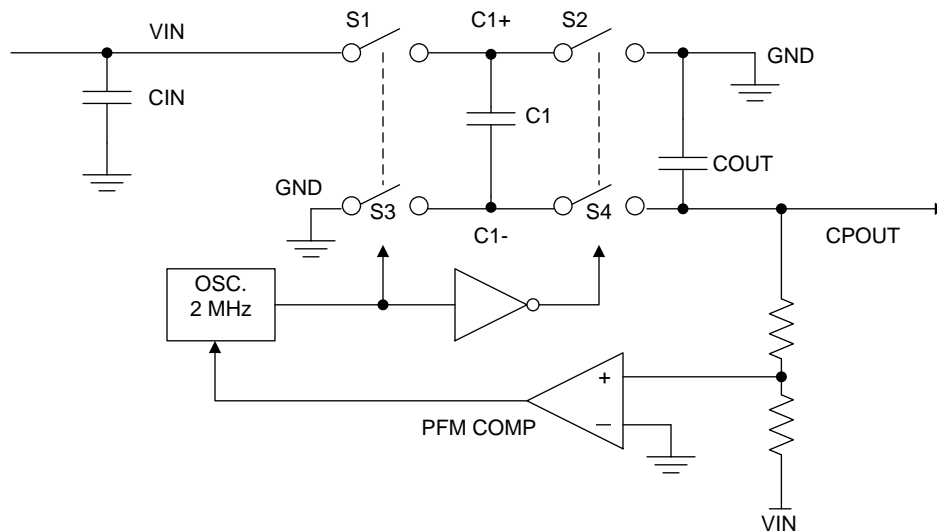

图 17. Voltage Inverting Principle
The voltage inverter portion of the LM27761 contains four large CMOS switches which are switched in sequence to invert the input supply voltage. Energy transfer and storage are provided by external capacitors. 图 17 shows the voltage switches S2 and S4 are open. In the second time interval, S1 and S3 are open; at the same time, S2 and S4 are closed, and C1 is charging C3. After a number of cycles, the voltage across C3 is pumped into V_{IN} . Because the anode of C3 is connected to ground, the output at the cathode of C3 equals $-(V_{IN})$ when there is no load current. When a load is added the output voltage drops determined by the parasitic resistance ($R_{DS(ON)}$ of the MOSFET switches and the equivalent series resistance (ESR) of the capacitors) and the charge transfer loss between the capacitors.
- R_{SW} is the sum of the ON resistance of the internal MOSFET switches shown in 图 17. (1)